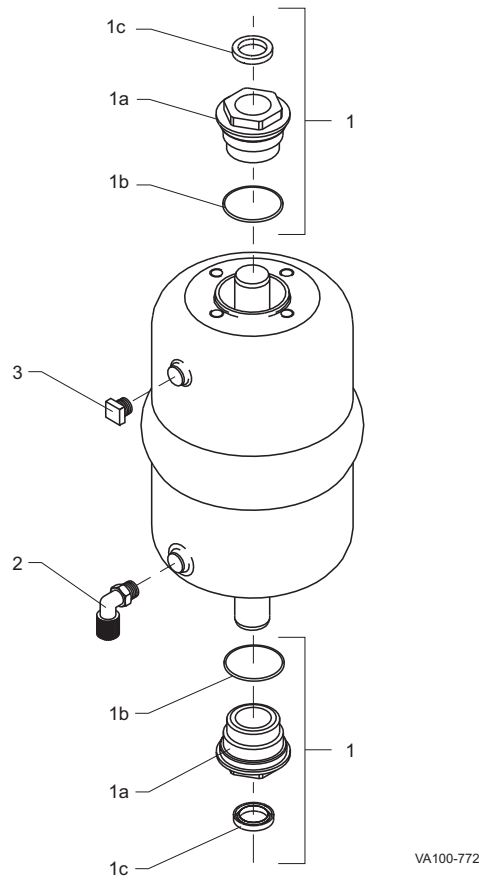

Figure 40: Maintenance-Free Actuator
2. Remove the o-ring guide nut assembly (Figure 40, item 1) from both ends of the actuator.
3. Replace the bearing (item 1c) and o-ring (1b).
4. Re-install the o-ring guide nut assembly (Figure 40, item 1) and tighten the guide nut (item 1a) until it is snug.